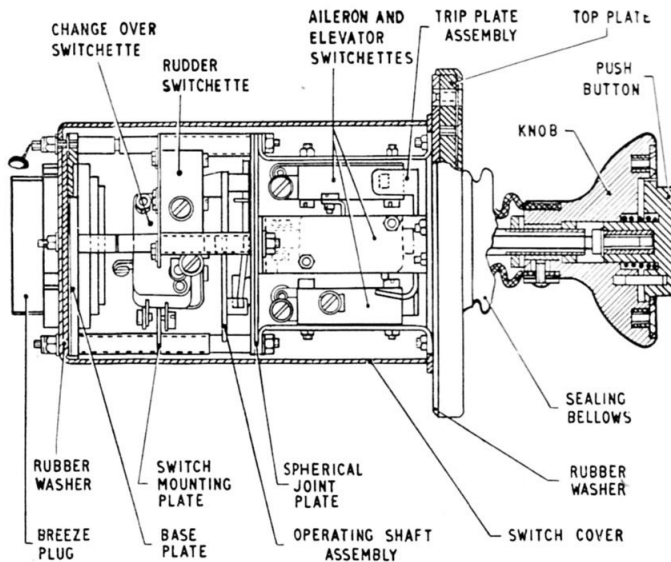
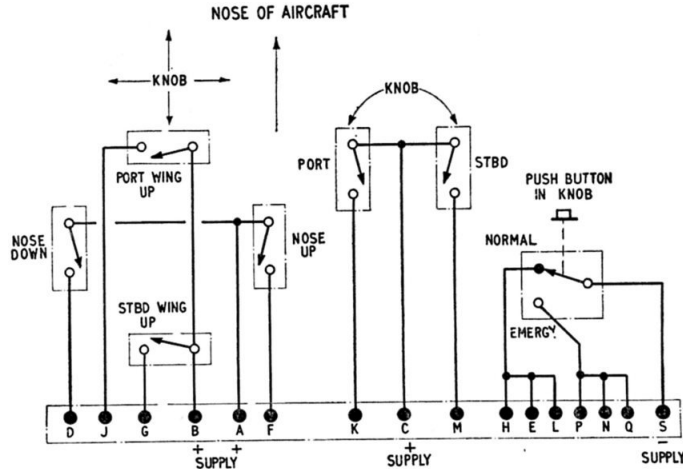

Fig. 2. Sectional view of switch
Fig. 3. Wiring diagram
2. The trim switch (*fig. 2*) is operated by a hand control knob fastened to a shaft which has a spherical joint on its end. The shaft carries a trip plate assembly on the inner side of the top plate, and the trip plate is so shaped that operation of the control knob to the right, left, up or down closes the appropriate micro switchette, so giving a supply to the appropriate field of the relevant trimming actuator. It will be noted from the wiring diagram in *fig. 3* that this switch differs from others with the same function in the operation of the aileron and elevator switchettes, in that movement of the knob in a certain direction has the effect of operating the switchette 90 deg. anti-clockwise from that direction, and not the switchette situated physically at that position.
6. The internal wiring of the switch is brought out to an 18-pole Mk. 4 miniature plug on the end of the switch. A wiring diagram is given in *fig. 3*. To gain access to the inside of the switch, remove the seal, nuts and washers from the end studs, and draw the cover away from the switch.